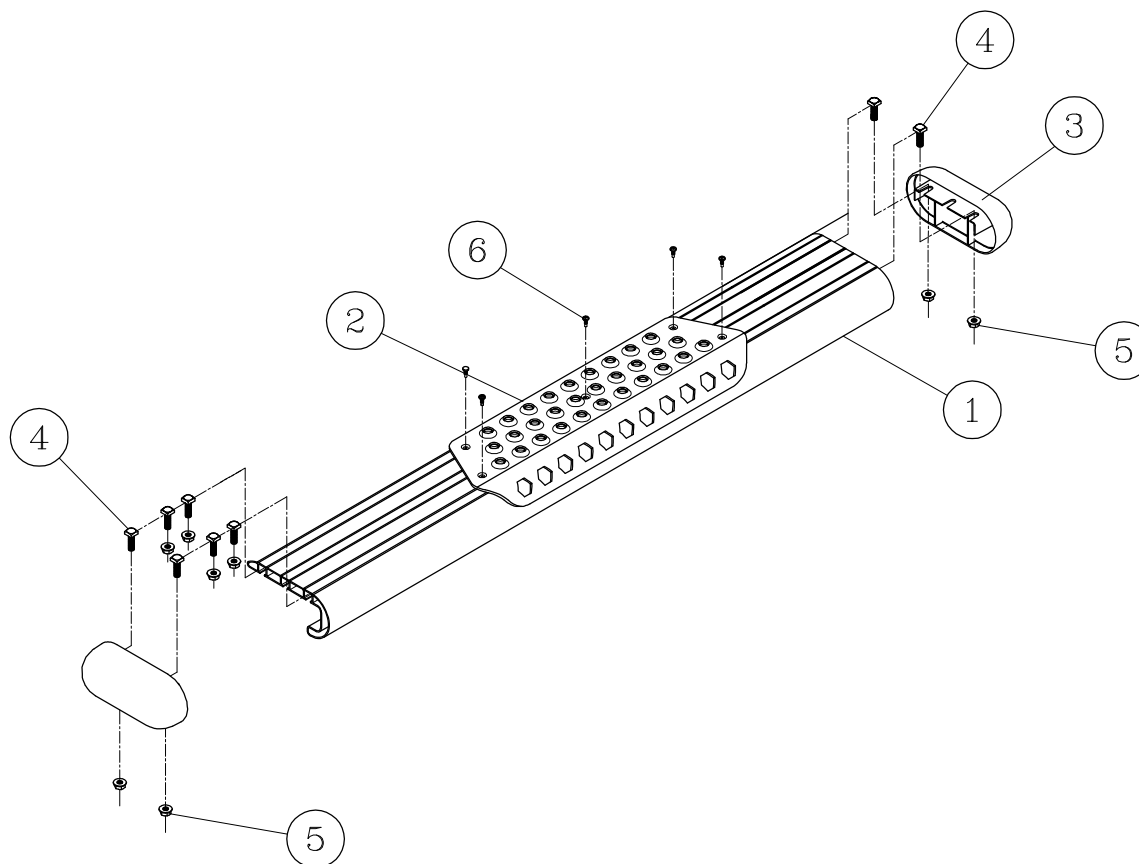

fig.1
3. BEFORE ATTACHING THE O-MEGA STEPS TO THE BRACKETS, PLACE THE STEP PADS (ITEM #2) ON TOP OF THE STEP PLATES ACCORDINGLY FOR YOUR VEHICLE. USING THE HOLES IN THE STEP PAD AS A GUIDE DRILL (5) 1/8" PILOT HOLES. ATTACH WITH (5) 8-18X1/2" TEK SCREWS (ITEM #6) PROVIDED. REPEAT FOR ALL STEP PADS.
5. INSTALL THE END CAPS (ITEM #3) AS SHOWN IN (FIG.1), TIGHTENING THE SERRATED NUTS (ITEM#5) TO 5 LB FT.